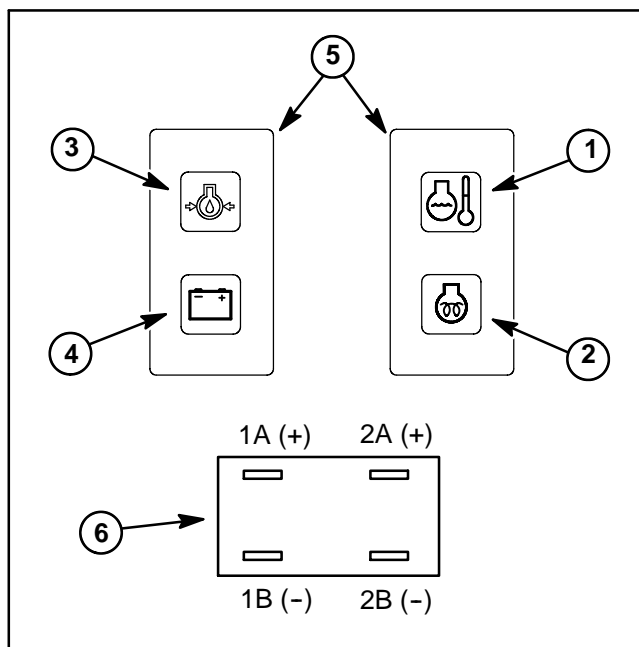

Figure 7
1. Apply 12 VDC to terminals 1A and 2A (Fig. 7).
2. Ground terminals 1B and 2B (Fig. 7).